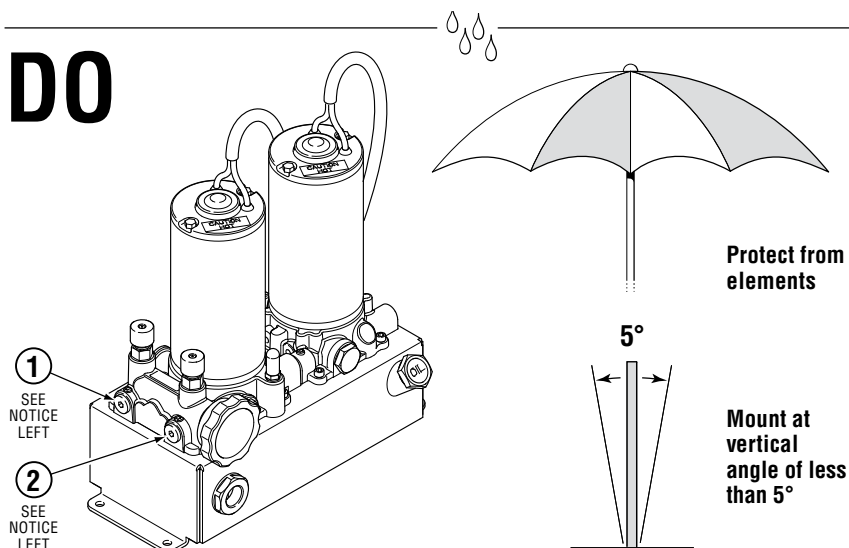

Figure 4-8.
*Hose fittings can be relocated to plugged ports if required. (See figure 4-8, item 1 and 2.) Torque hose fittings to 18 ft-lb (24 Nm) and plugs to 50 in-lb (6 Nm).*